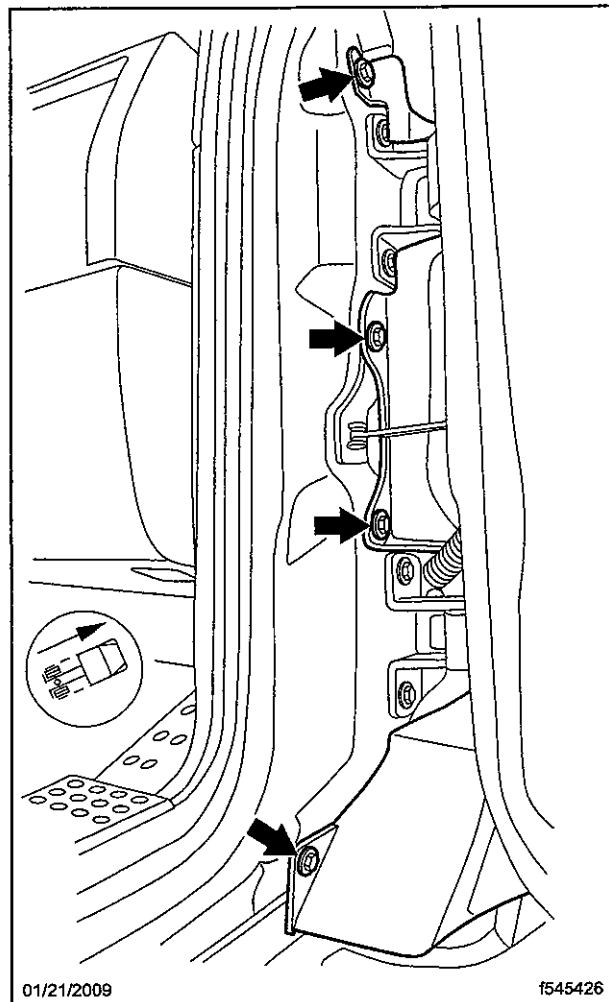

Fig. 9, Rear Cowl Side-Panel Fasteners
- 15.3 Open the door to access the four fasteners that hold the rear edge of the side-panel in place. See **Fig. 9**.